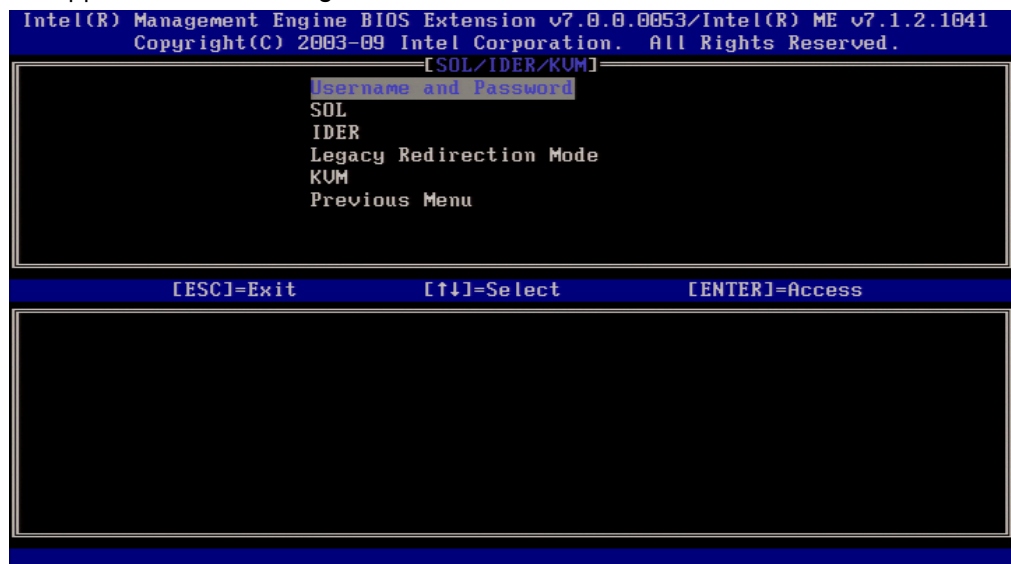

Figure 10. Intel AMT SOL/IDER/KVM Selection Screen
11. At the previous menu select **SOL/IDER/KVM**. The SOL/IDER/KVM screen appears as shown in Figure 10'